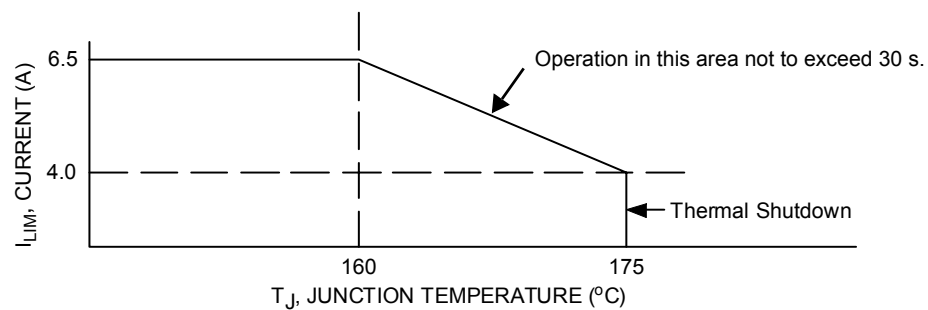
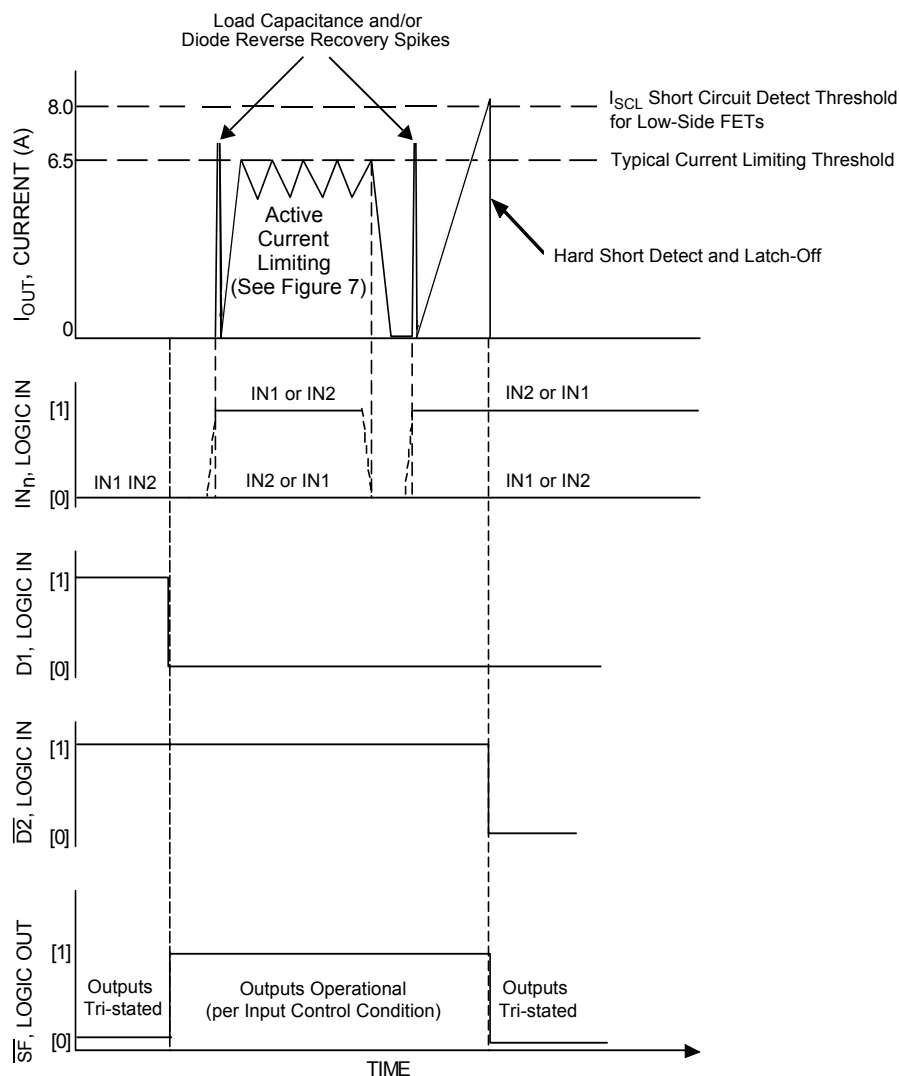

Figure 5. Active Current Limiting Versus Temperature (Typical)
Figure 6. Active Current Limiting Versus Time
27. Increasing currents will become limited at I_{LIM} . Hard shorts will breach the I_{SCH} or I_{SCL} limit, forcing the output into an immediate tri-state latch-OFF. See Figures 6 and 7, page 12. Active current limiting will cause junction temperatures to rise. A junction temperature above 160°C will cause the active current limiting to progressively “fold-back”, or decrease, to 4.0 A typical at 175°C where thermal latch-OFF will occur. See Figure 5, page 11.
The current limiting threshold value is dependent upon the device junction temperature. When $-40^\circ\text{C} \leq T_J \leq 160^\circ\text{C}$, I_{LIM} is between 5.2 A to 7.8 A. When T_J exceeds 160°C , the I_{LIM} current decreases linearly down to 4.0 A typical at 175°C . Above 175°C the device overtemperature circuit detects T_{LIM} and overtemperature shutdown occurs (see Figure 5, page 11). This feature allows the device to remain operational for a longer time but at a regressing output performance level at junction temperatures above 160°C .